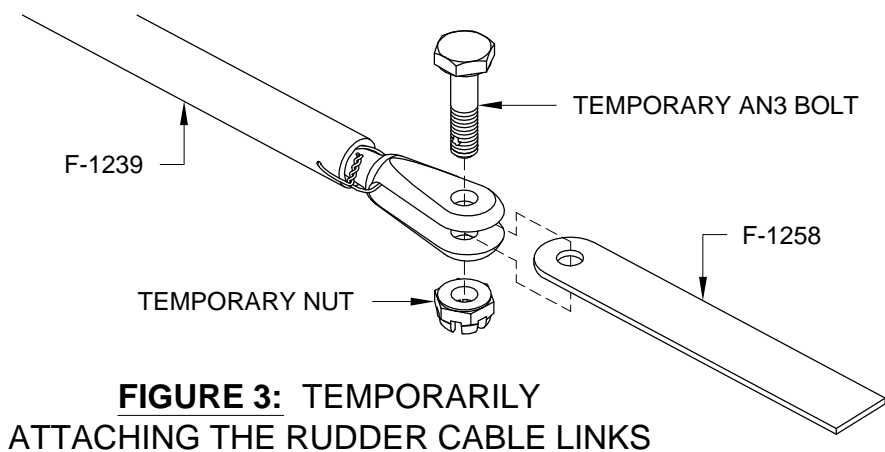

FIGURE 3: TEMPORARILY ATTACHING THE RUDDER CABLE LINKS
Step 6: Temporarily attach one F-1258 Rudder Cable Link to the fork end of both F-1239 Rudder Cables as shown in Figure 3.